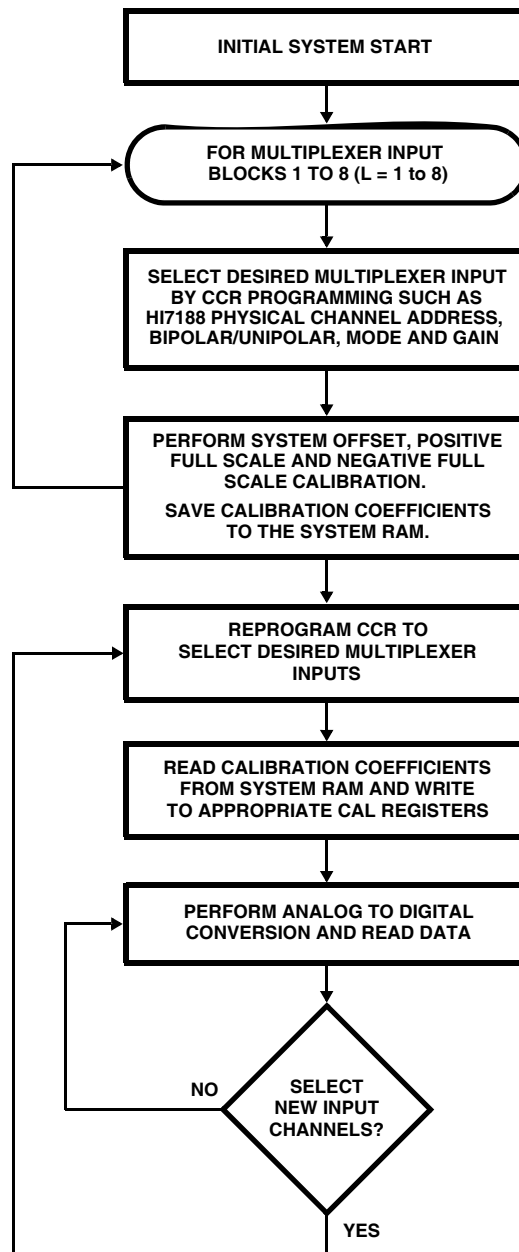

FIGURE 2. SYSTEM FLOW CHART
The overall system flow is shown in Figure 2. The flow chart contains the basic steps to control the multiplexed system. It begins with the initial system start. Please refer to the "Using the HI7188" section of the datasheet. The control of this circuit is achieved by programming the Control Register (CR) and Channel Configuration Registers (CCR). The CR is 16 bits wide and contains information that determines operating mode and the system/chip level configuration. This configuration applies to all 8 logical channels and cannot be modified at the channel level. The CCR comprise a 64-bit (8 bits/channel) memory element that defines the logical channel conversion order as well as each logical channel specific data such as physical channel address, mode, gain, and bipolar/unipolar operation.